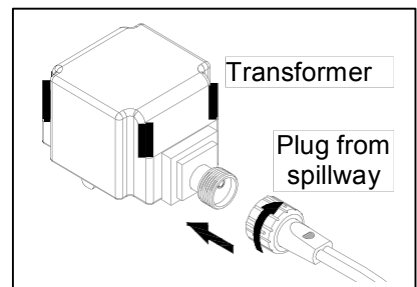

Fig. 16
16. Connect the spillway to the transformer by pushing the plug into the transformer socket until it is firmly seated. Hand tighten the nut from the plug to the socket. Fig. 16